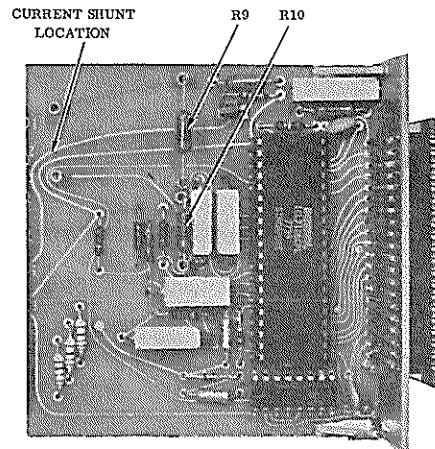

Figure 7. Component Location
6. Observe resistor values for R9 and R10 and compare to figure 7 and Table III.
A shunt resistor may be plugged in to the terminals shown in figure 7 to permit current measurement. Alternatively, an external shunt resistor may be connected between signal high and signal low. For current measurement, the meter should be connected in the 200 mV or the 2 V range, depending on the full scale voltage drop which can be tolerated. Table IV shows the shunt resistor value required. The accuracy of measurement will be determined largely by the accuracy of the shunt resistor.